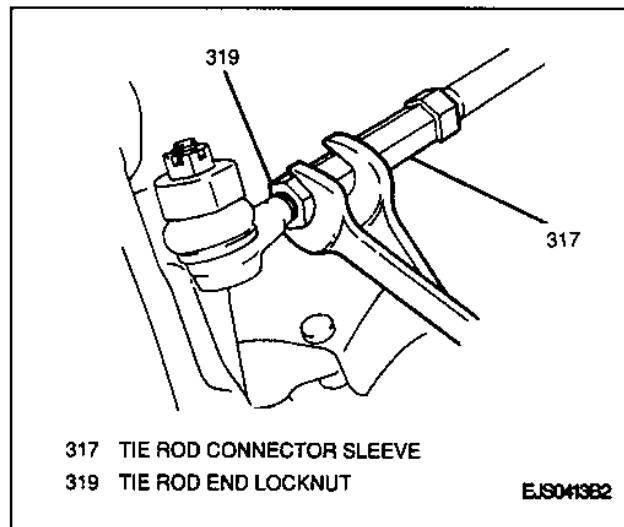

Figure 11—Tightening Tie Rod End
- Tie rod end locknut to 65 N.m (48 lb. ft.) (Figure 11).